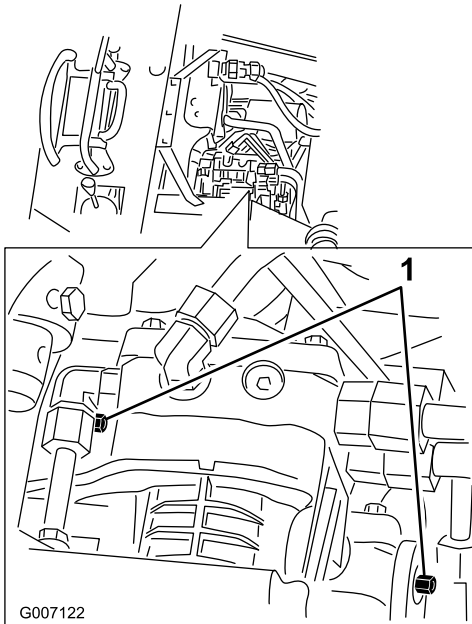

Figure 30
3. Using a wrench, turn the tow valves on the hydraulic pumps twice counter-clockwise (Figure 30).